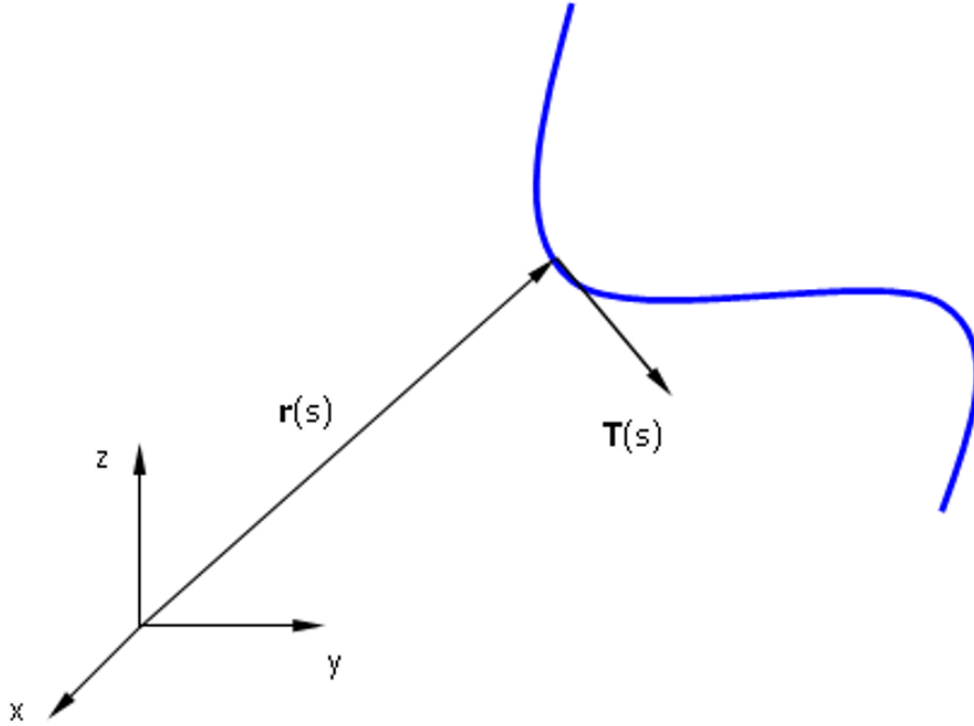

Fig. 1: Parametric description of a curved wire. The tangent unit vector is obtained from the first derivative of the position vector  $\mathbf{r}(s)$ .
which points from the origin to any point on the wire, Fig. 1. The parameter  $s$  varies over a real interval. The tangent unit vector can be obtained from the first derivative of (5):
Thus, the definition of a wire must include its parametric description and its first derivative if an exact representation of the geometry is required, as shown in Fig. 1.